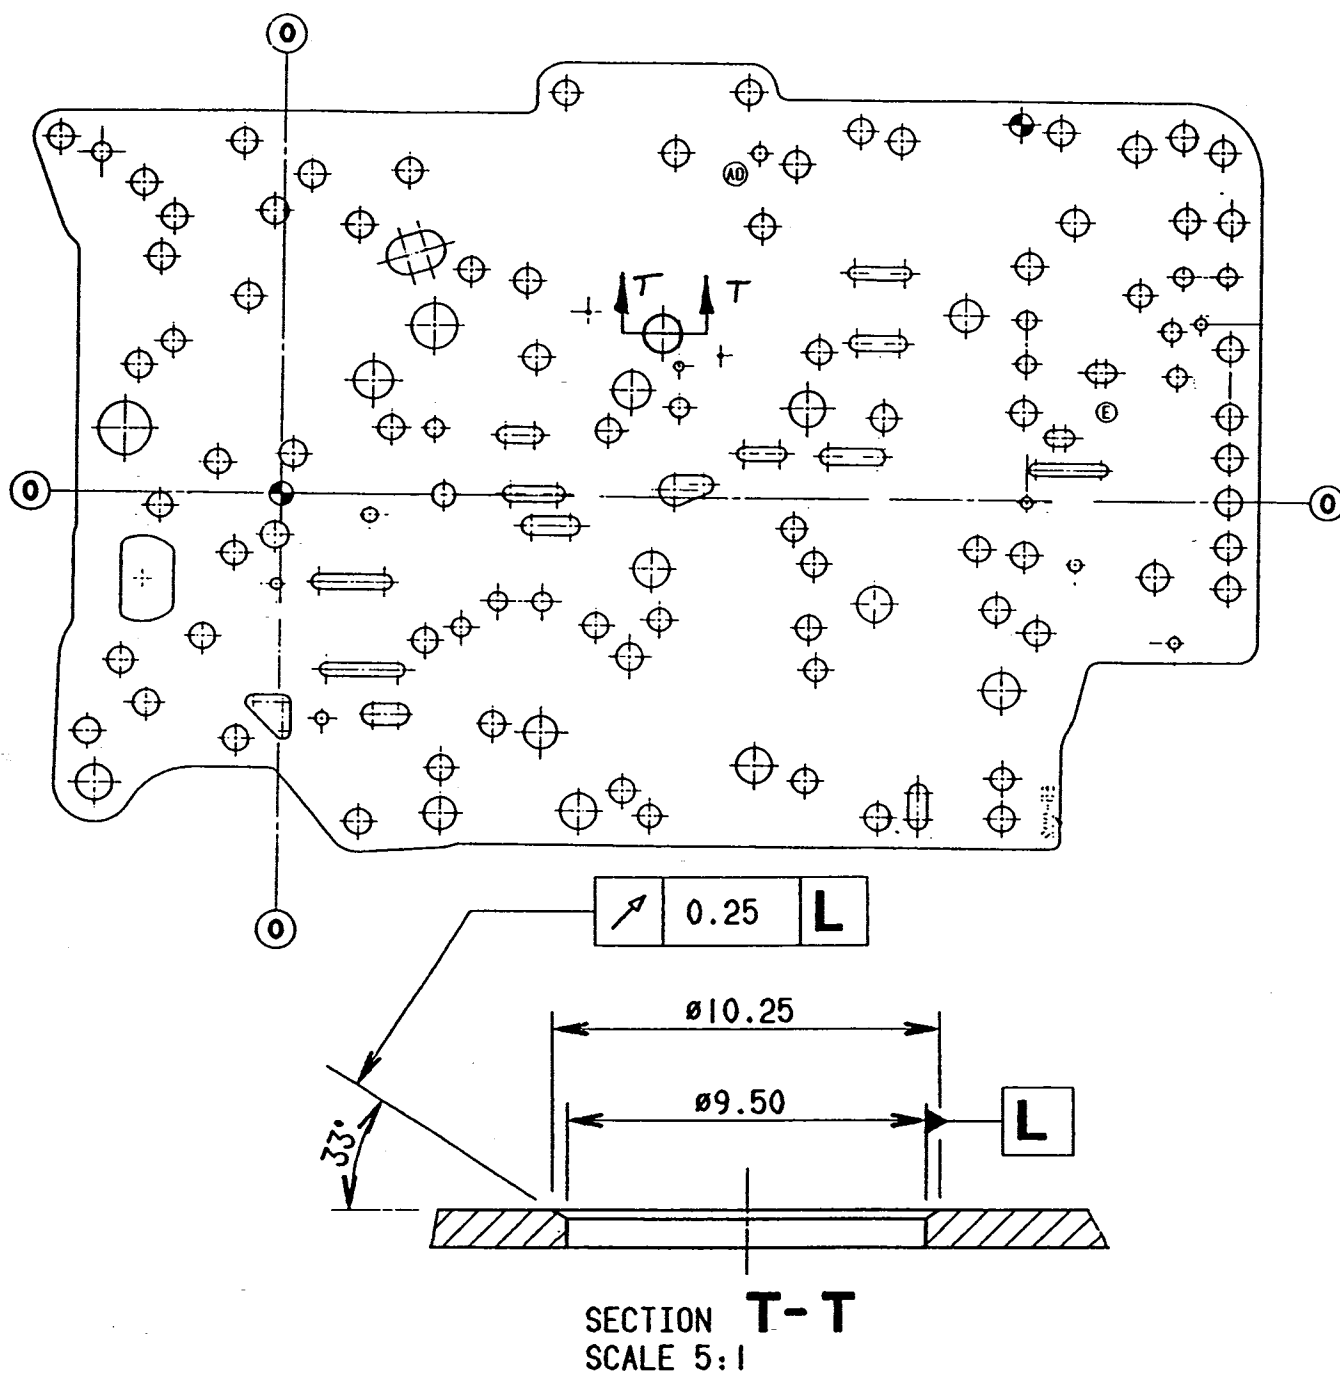

FIGURE 3: CAF HOLE AND 33° CHAMFER.
- ii) Inspect the CAF hole in the baffle plate. If the hole does not look like the one shown in Figure 3, or the hole edge quality is not smooth and deburred, replace the baffle plate with a new level component. (BTRE Part Number 0585-036002).